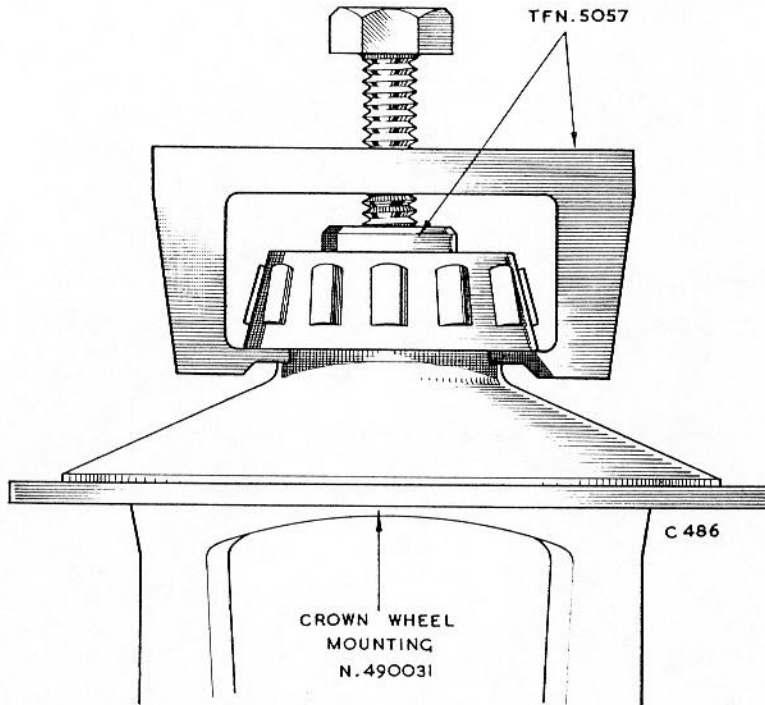

Fig. 11 Extracting bearings from crown wheel mounting.
6. If the taper rollers are unserviceable, remove them from the crown wheel mounting spigot using the tool TFN.5057 as shown in Fig.11.